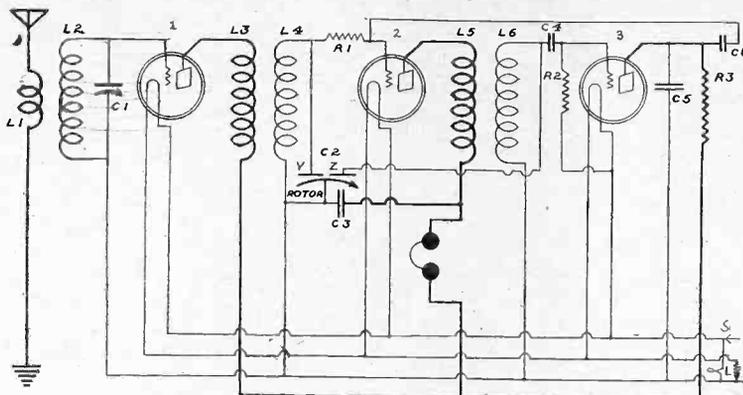

FIG. 1
The chief difficulty lies in proceeding from the first reflexed stage (first audio) to the next audio stage. Everything is all right—or nearly so—when you go as far as shown in Fig 1. Tube (1) is an unmolested stage of tuned RF. Tube (2) is the second tuned R F stage, about which more later, while tube (3) is the detector, with tuned input. Now, the output of the detector (rectified component) is connected to B+ through the usual plate resistor, R3, say 100,000 ohms. C6 is the isolating condenser that keeps the B positive off the succeeding grid. This ensuing grid, however, is that of the second RF stage. Instead of going on to the next grid you go back to the preceding one. Be careful this connection is made to the G post and that the grid leak R1, say .5 meg., is not in the tuned part of the circuit. In other words, follow Fig. 1 closely.